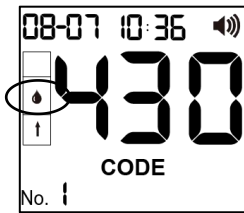

Fig. 31
- The blood drop symbol will flash when the meter is ready for the specimen to be applied. (Ref Fig. 31)